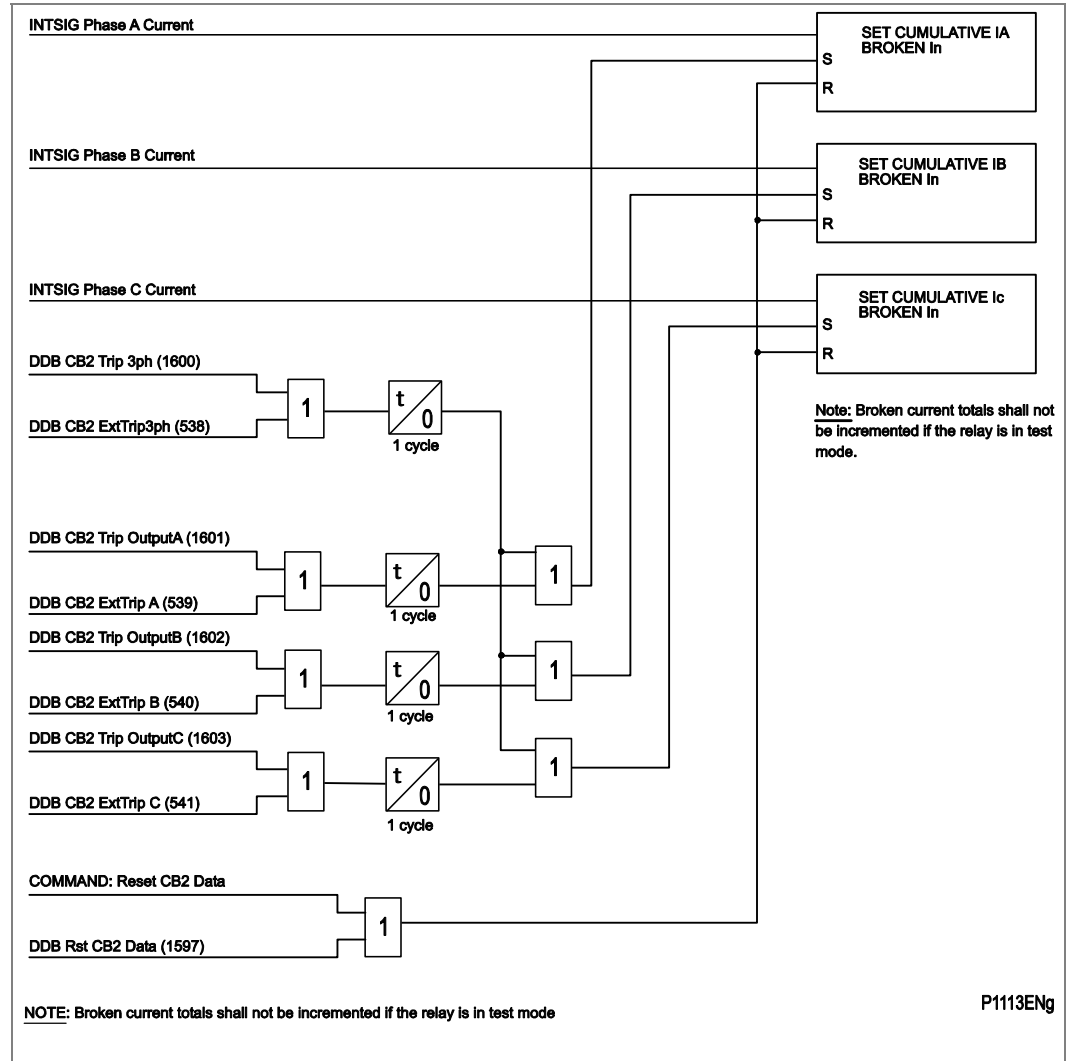

Figure 111 - CB2 condition monitoring - broken current
- Figure 111 - CB2 condition monitoring - operation time